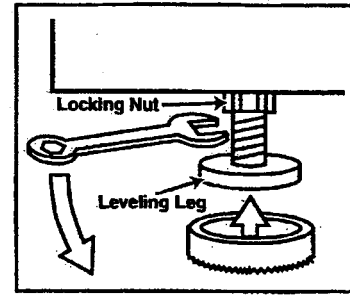

Figure 1-3
2. Tip washer slightly forward. Loosen rear leveling leg lock nuts. Tip washer back slightly to loosen front leveling leg lock nuts (Figure 1-3).
5. Install the rubber feet, found in the installation package, on all 4 legs (Figure 1-3).